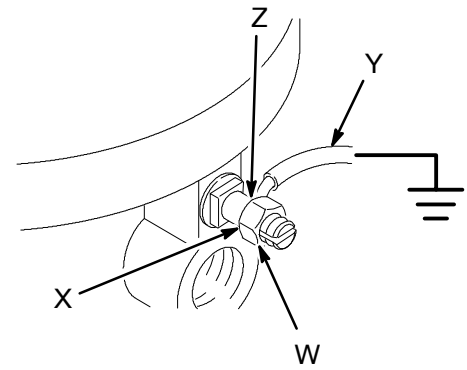

Fig. 1
1. *Pump:* use a 12 gauge (1.5 mm2) minimum ground wire and clamp. See Fig. 1. Loosen the grounding lug locknut (W) and washer (X). Insert one end of the ground wire (Y) into the slot in lug (Z) and tighten the locknut securely. Connect the other end of the wire to a true earth ground. Order Part No. 238909.